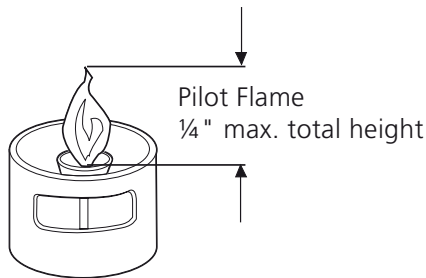

Figure 14
5. Adjust pilot flame between  $\frac{1}{8}$ " and  $\frac{1}{4}$ " (see figure 14) so that a slight tinge of yellow appears at the top.